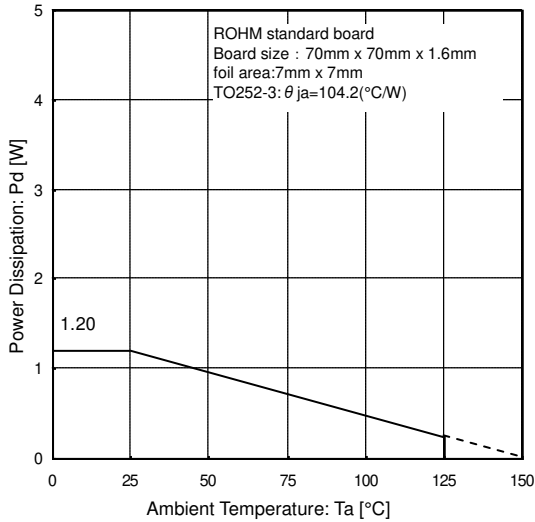
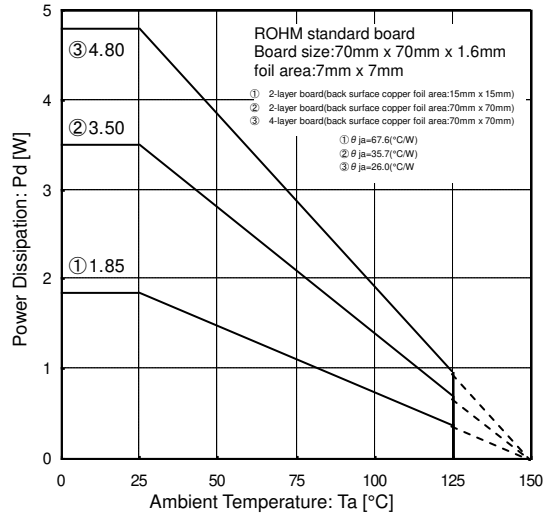

Figure 10
Figure 11
When operating at temperatures above $T_a=25^\circ\text{C}$, please refer to the derating factor shown in Figure 10 and Figure 11. The IC characteristics are closely related to the temperature at which the IC is used. It is necessary to operate the IC at temperatures below the maximum junction temperature (T_{jmax}).
Figure 10 and Figure 11 show the acceptable loss and derating factor of the TO252-3 package. The chip junction temperature (T_j) may be quite high even if the ambient temperature (T_a) is at room temperature (25°C). It is recommended to operate the IC at temperatures where Power Consumption (P_c) is less than the Power Dissipation (P_d).
The calculation method for Power Consumption P_c (W) is as follows : (Figure 11③)
$$I_O \leq \frac{2.469 - 10 \times I_{CC}}{5} \quad \left(\begin{array}{l} \text{Figure 11③: } \theta_{ja}=26.0^\circ\text{C/W to } -38.4\text{mW}/^\circ\text{C} \\ 25^\circ\text{C}=4.80\text{W to } 85^\circ\text{C}=2.496\text{W} \end{array} \right)$$